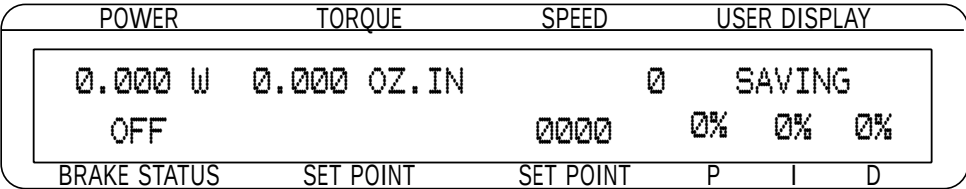

Figure 2-3 Saving Function Menu
1. Press the SHIFT button two times. The word “SAVING” will appear in the display, as shown in Figure 2-3 Saving Function Menu.